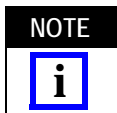

Figure 1
- New artwork provided in Figures 1 and 2